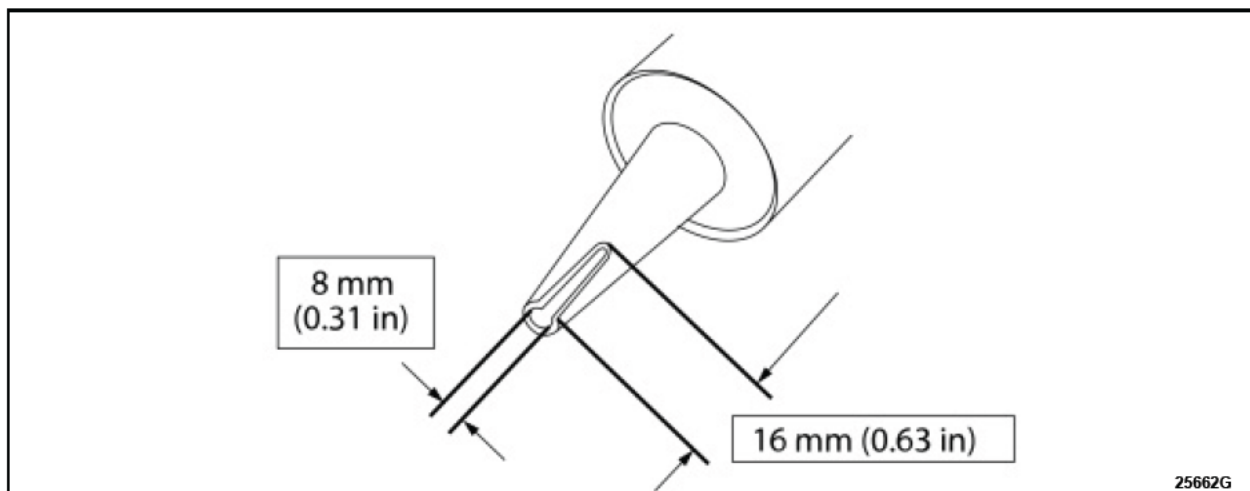

FIGURE 3
8. Cut the urethane adhesive applicator tip to specification. See Figure 3.